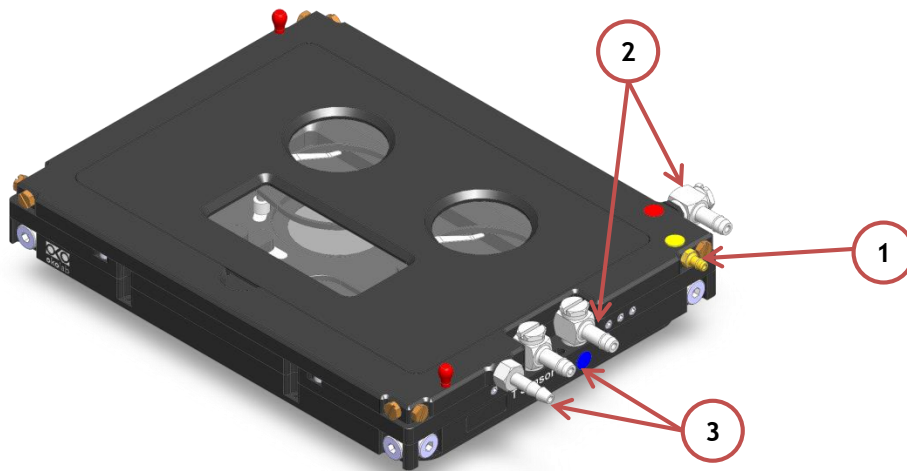
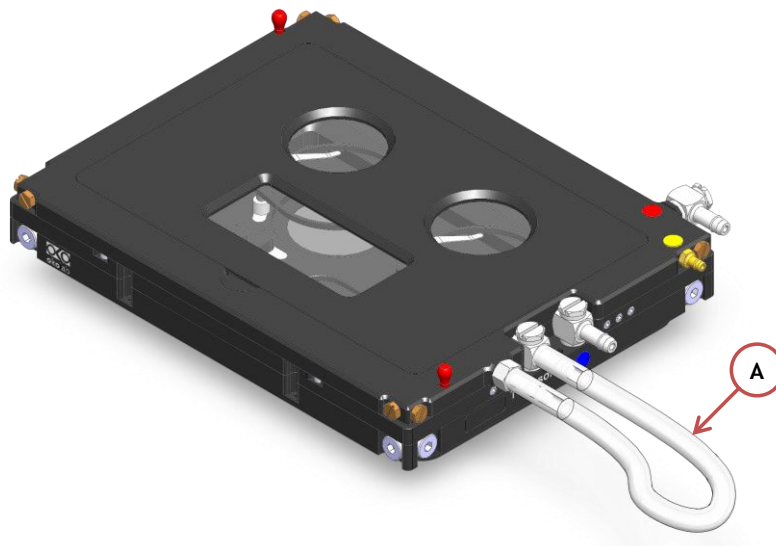

Figure 14. Connectors.
Figure 15. Communication tubing between the base and chamber lid
1. **Gas Input.** A single silicon tubing carries output gas from the Okolab Bubbler Column to the H101-OLYMPUS-IX3-SVR. Silicon tubing connects to a gas input - brass opening - located on a corner of the H101-OLYMPUS-IX3-SVR. See Figure 14 Point 1. Connect by gently pushing silicon tubing onto brass opening.
2. **Water Input and Output.** Two silicon tubing carry output and input water from the thermostatic bath to the H101-OLYMPUS-IX3-SVR. See Figure 14 Points 2. Connect by gently pushing silicon tubing onto steel opening. Match colors on chamber steel openings with ones on the thermostatic bath.
3. **Water Input and Output.** A single silicon tubing carries output water from the lid water jacket to the base one. See Figure 14 Points 3. The silicon tubing connects the base and lid as shown in Figure 15.